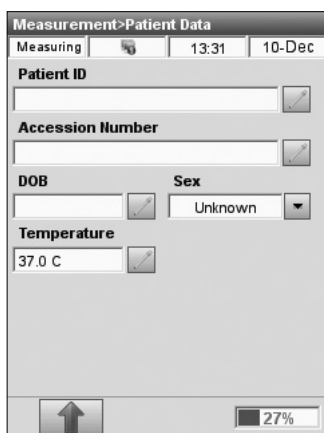

Fig. 5-25 Edit Patient Data
13. The **<Patient Data>** entry screen (Fig. 5-25) contains the information that was configured in **<Setup>** (Section 3.2.2.1).
14. To enter patient data, press  (Fig. 5-25). Use the alphanumeric keypad to type in the desired information or scan a barcode for Patient IDs and Accession Nos.